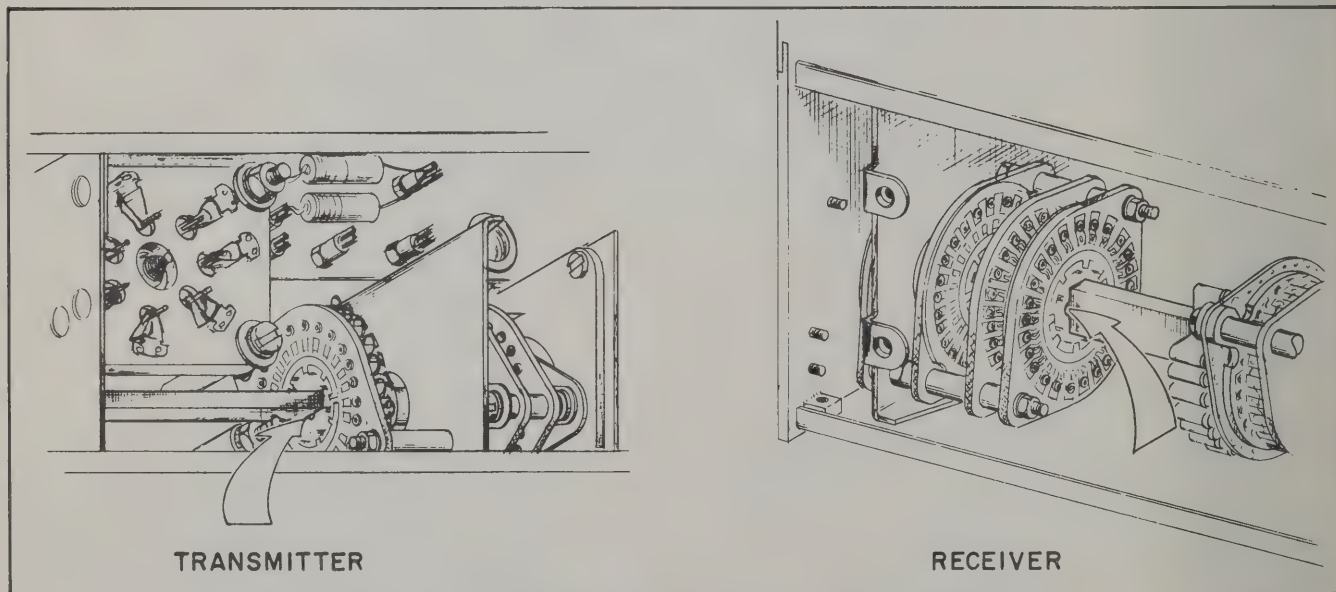

Figure 2-14. Orientation for MC Selector Switch Position 1
4. Rotary solenoids may be hand stepped by rotating back plate to detent limit to step switch one position. Orientation for position 1 is shown in Figure 2-14. Position 2 is next clockwise detent "click", position 3 is next clockwise detent "click", etc.